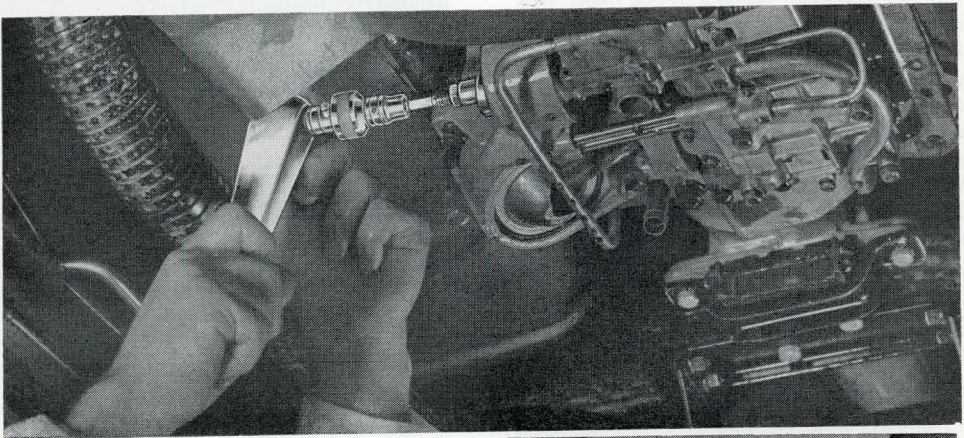

Figure 12
2. Loosen front servo adjusting screw lock nut two full turns with 9/16" wrench (OEX-180), and pull back on actuating rod. Insert 1/4" gauge block (AT-60) between the servo piston stem and the adjusting screw. Using a small Torqometer (TQ-12B), a ratchet adaptor (F-67-B), and screw driver bit (AT-56), tighten adjusting screw to 10 inch pounds. The ratchet adaptor is used for aid and convenience in positioning the screw driver bit to turn the adjusting screw. Fig. 12.
3. Using same tools (Torqometer, ratcheting adaptor, and screw driver bit), reverse direction of ratcheting adaptor and back-off adjusting screw exactly one complete turn. Fig. 12.
4. Holding adjusting screw stationary, tighten lock nut clockwise with 9/16" wrench (OEX-180) to about 20 to 25 foot pounds torque; check torque with Torqometer (TQ-50AF). Observe adjusting screw to make sure it does not turn in process of tightening lock nut. Fig. 12. Remove gauge block.